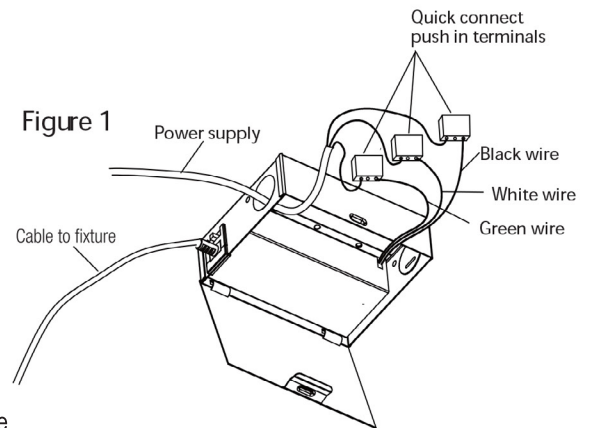

Figure 1
- Connect black wire of cable to black wire of box. **(Figure 1)**